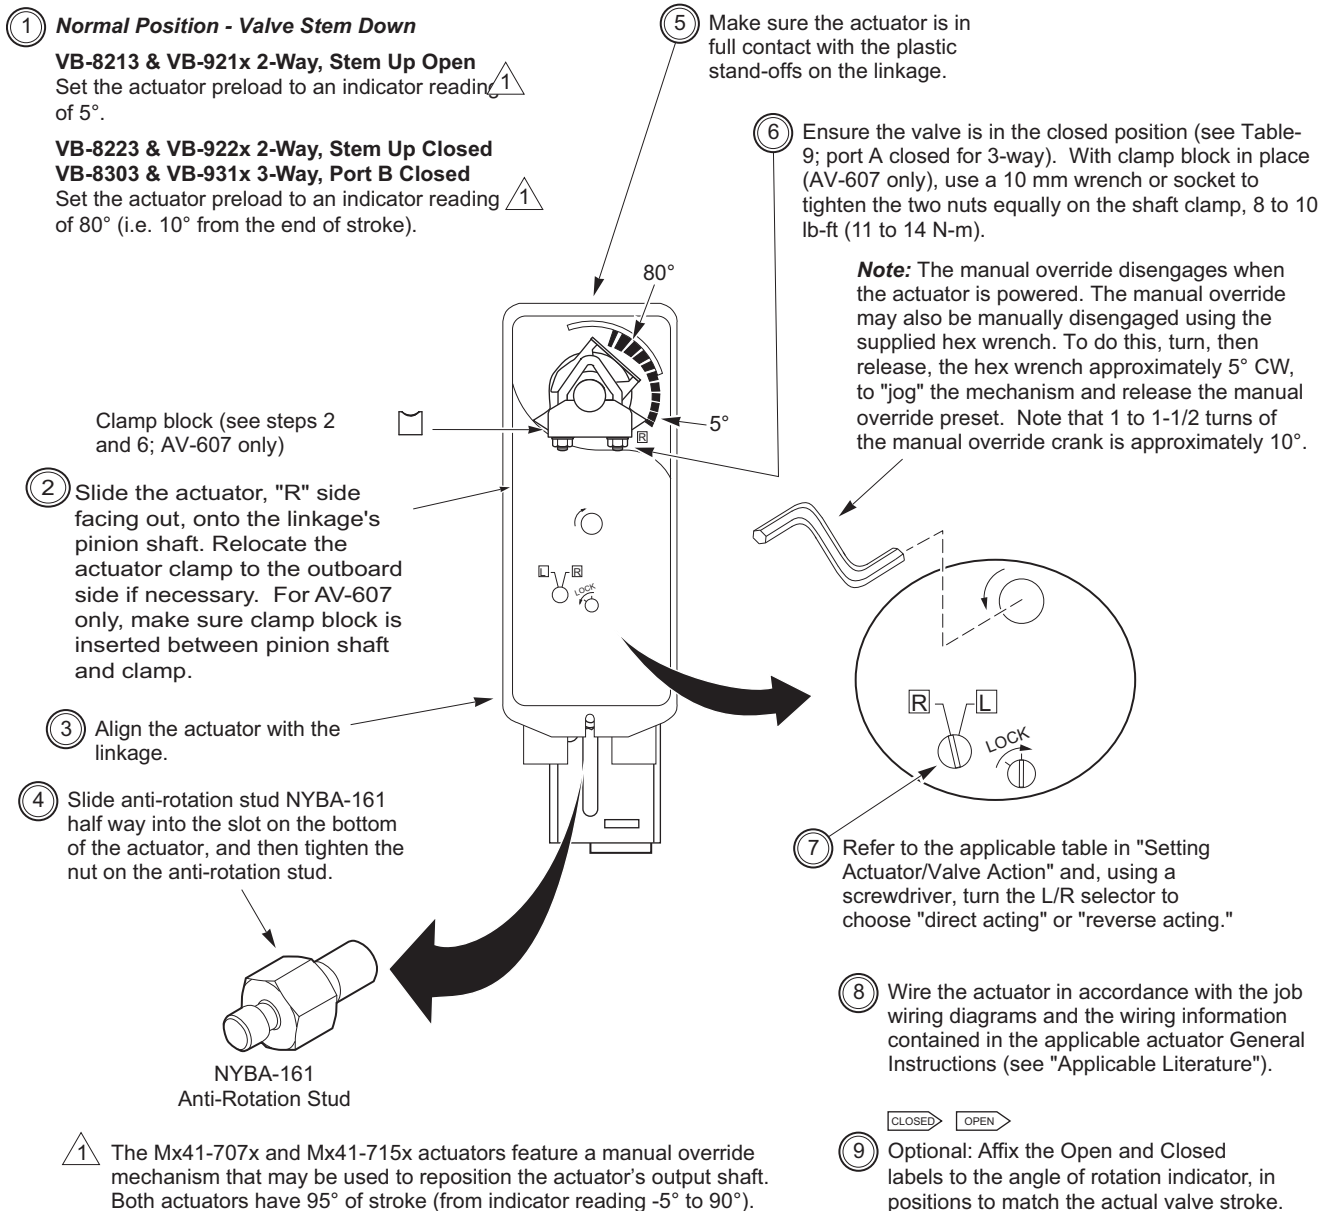

Figure-12 Mounting Mx41-707x or Mx41-715x and Setting Up Actuator/Linkage/Valve Assembly.
- a. Install the actuator onto the linkage and valve, and set up the assembly, according to Figure-12.